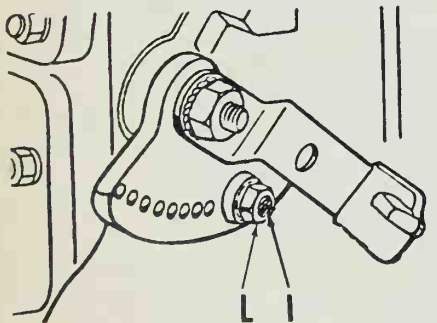

Fig. F2-1—Adjust low idle speed by loosening locknut (L), then turn screw (I) so detent can be relocated in plate.
loosening locknut (L—Fig. F2-1) and turning screw (I) so detent can be relocated in plate. Maximum governed speed is determined by governor and engine application.